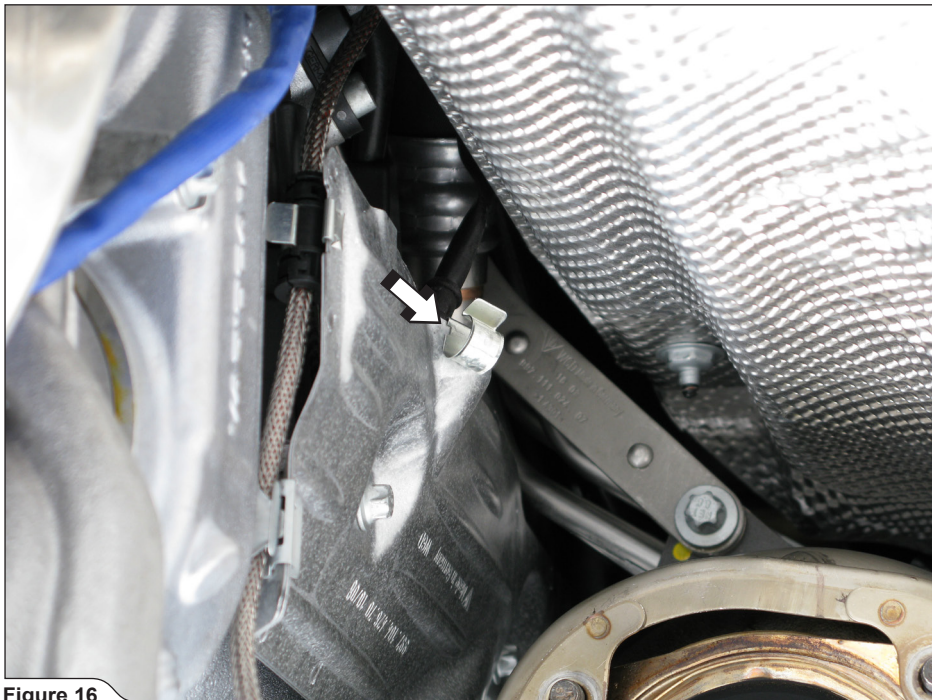

Figure 16
2. For Slip-On Race, Evolution Race and Upgrade Kit1/2: move the lambda sensor's electrical lead brackets on left side of the vehicle as shown (Figure 16).